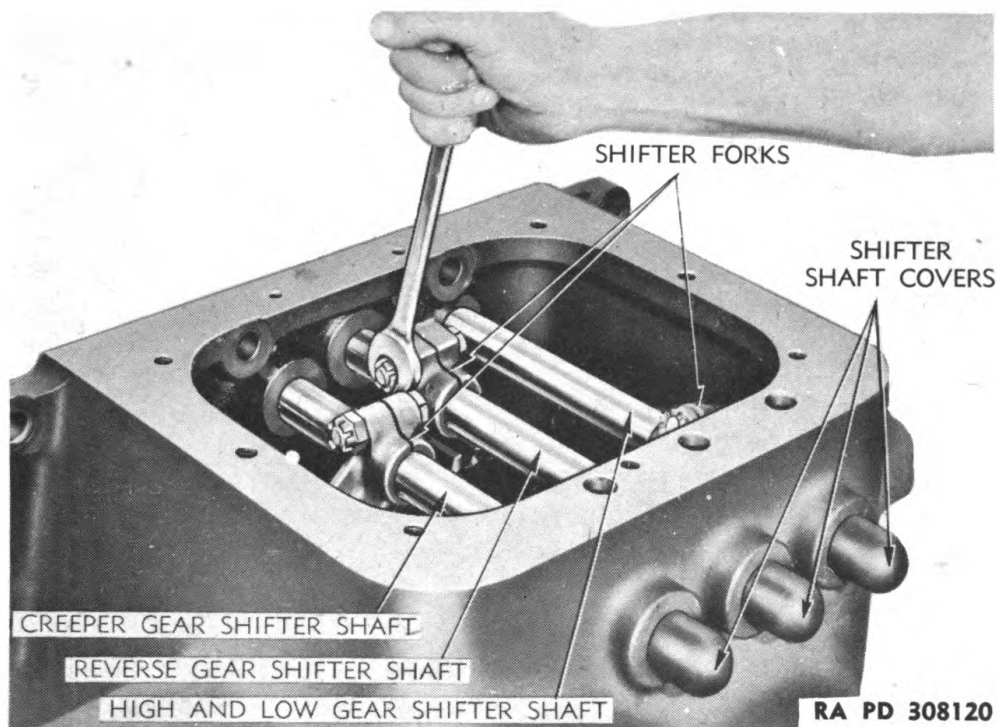

Figure 20 – Loosening Shifter Fork Clamp Bolts
a. **Remove Shifter Shafts and Forks** (fig. 20). Pull cotter pins and loosen nuts on shifter fork clamp bolts. Drive shifter shafts towards rear of case. This will push shifter covers out of case. Then slide shafts out of forks and case and remove forks. Remove the shifter shaft interlocking plungers and springs in lateral passages in front end of case (fig. 63).